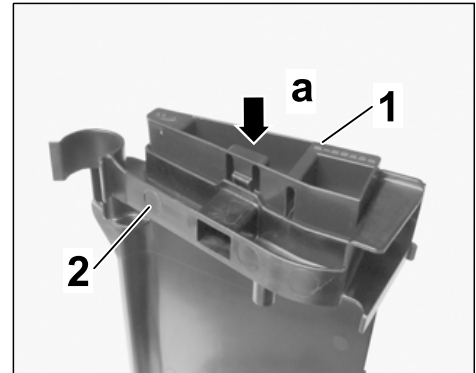

Figure 7
- 3.1.1 Clip cover at the left/right ⇒ *Figure 7-1-* into retaining frame ⇒ *Figure 7-2-* (⇒ *Figure 7-a-*).